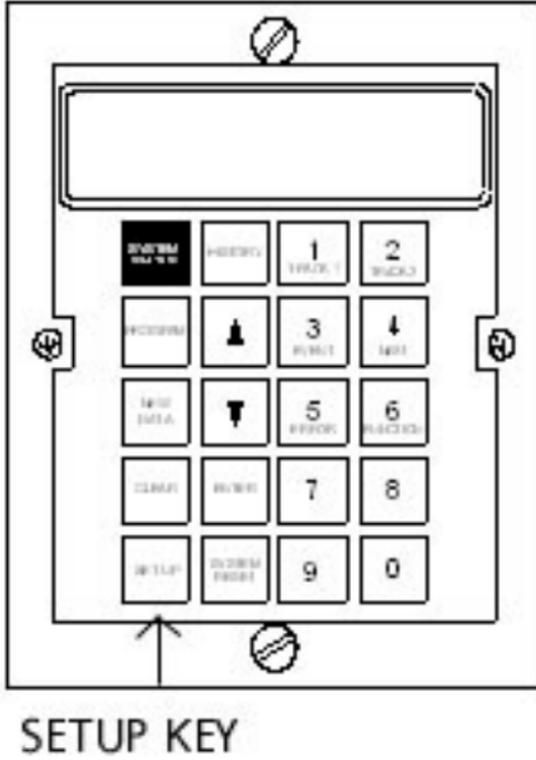

Figure 4:
5. Press and hold the **SETUP** key on the Model 3000 GCP system keypad [Keyboard/Display A80019] (See Figure 4) while setting the Model 3000 GCP power switch to **ON**.